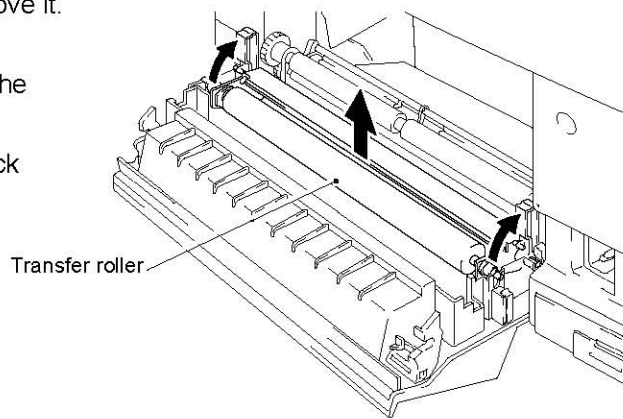

Fig. 6-21
- (1) After turning off the printer, unplug the power cable from the power outlet.
- (2) Open the rear access cover. (Fig.6-21)